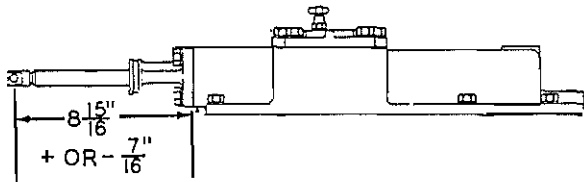

Fig. 2A -- Spool Valve "Standout" Dimension (T-41915)
- b. Push spool valve in to contact piston; rotate bottom end of actuating shaft by hand to push spool valve out to obtain a dimension of  $8 \frac{15}{16}$ " (+ or -  $\frac{7}{16}$ " ) standout from front machined face of control valve housing to center of hole in front end of spool (refer to Fig. 2A).